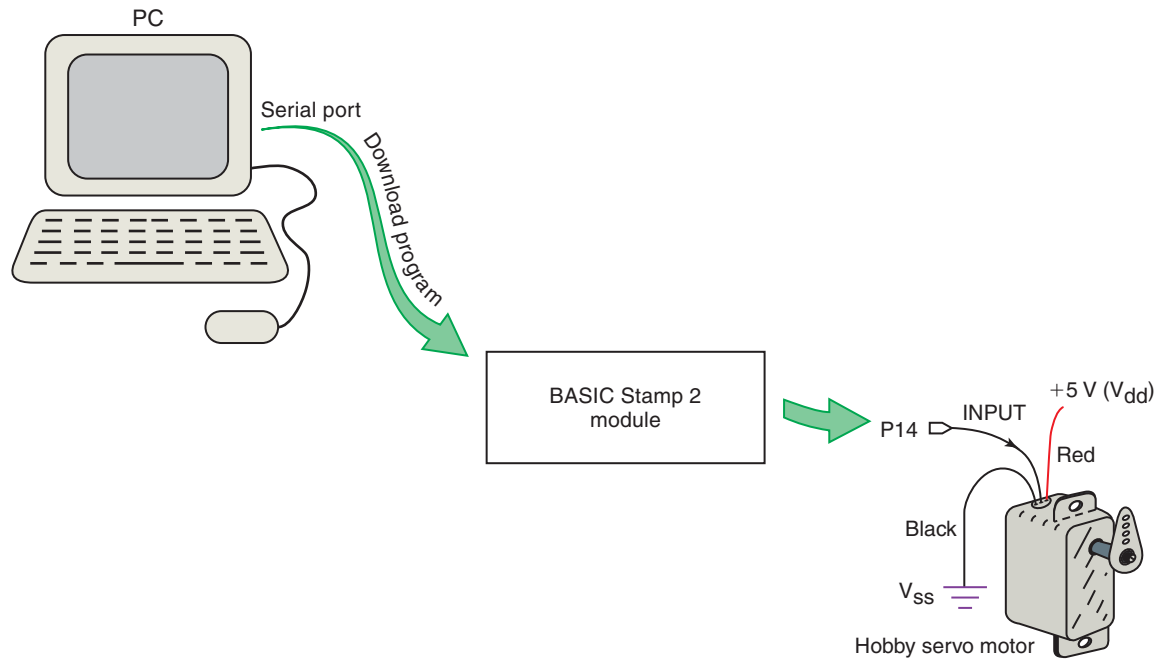

Fig. 5-43 Hobby servo motor connected to a BASIC Stamp 2 module for testing.
Consider the hobby servo motor connected to the BASIC Stamp 2 module in Fig. 5-43. This is a test circuit to rotate the servo (1) fully CCW, (2) fully CW, and (3) to finally center the output shaft.
1. Refer to Fig. 5-43. Wire the hobby servo motor to port P14 of the BASIC Stamp 2 module. Note the color coding (red = V_{dd}
91. Refer to the PBASIC program '**ServoTest 1** and Fig. 5-43. What is the effect on the servo's output shaft when the FOR-NEXT loop in lines 12–15 is totally executed (75 times through the loop)?